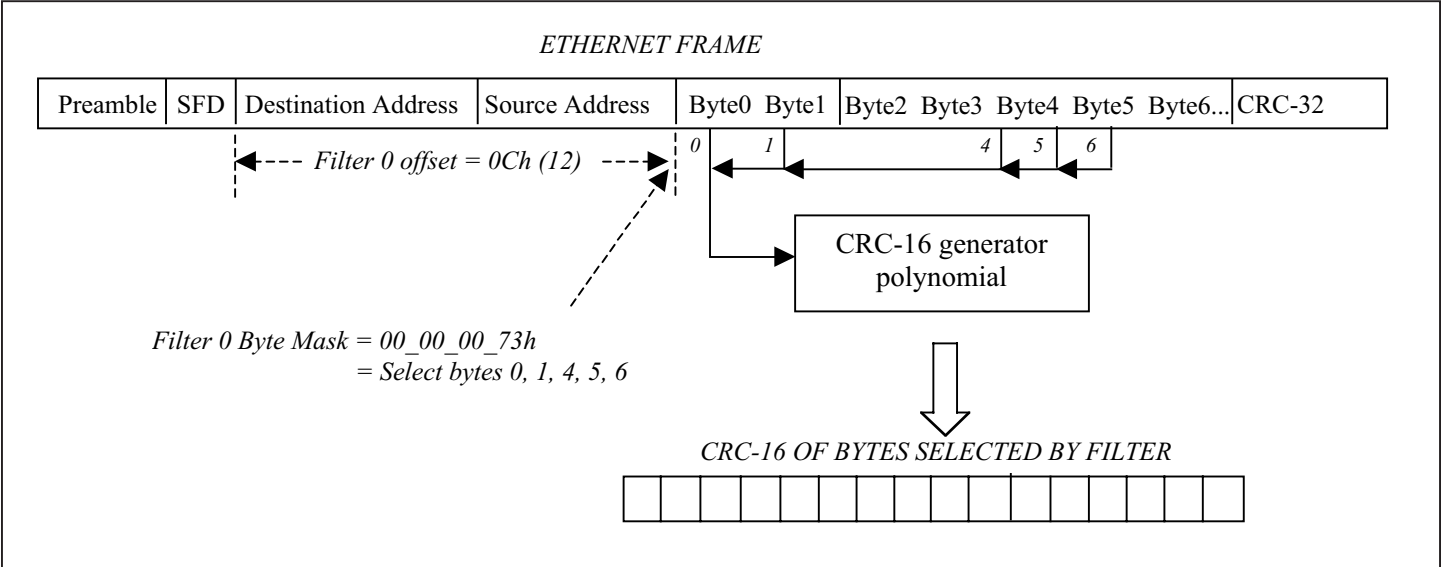

Figure 22-14. Wake-Up Frame Filter 0 Programming Example
Before putting the MAC into sleep mode, the host provides a list of sample frames and the corresponding byte masks to the wake-up frame filter register in the power-management block through the wake-up frame filter (28h) register. In order to know which bytes of each receive frame should be included in the CRC-16 calculation, the power-management block uses a programmable byte mask and a programmable pattern offset for each of the supported filters. In order to load the wake-up frame filter register, the host has to perform eight writes to the wake-up frame filter register. The wake-up frame filter structure is illustrated in the DS80C400 data sheet. The first write loads the filter 0 byte mask, the second write loads the filter 1 byte mask and so on. The fifth write loads the filter command nibble for each frame filter. Bit 3 of each filter [0,1,2,3] command nibble, or wake source (WS), is used in conjunction with the global unicast (GU) bit of the wake-up events control and status (2Ch) CSR register to define what type of frames are compared to the wake-up frame filters. Bit 0 of each filter [0,1,2,3] command nibble enables the associated wake-up frame filter. Table 22-4 summarizes the possible GU, WS bit combinations. Note that a broadcast frame is always compared versus the enabled wake-up frame filters. One option to easily allow any broadcast frame to serve as a network wake-up frame is to disable all filter byte mask bits (= 00\_00\_00\_00h) and designate that the required filter CRC-16 be 0000h (default CRC-16 value). Steps 1 through 8 show an example sequence for programming wake-up filter 0. Figure 22-14 shows the resultant filter.